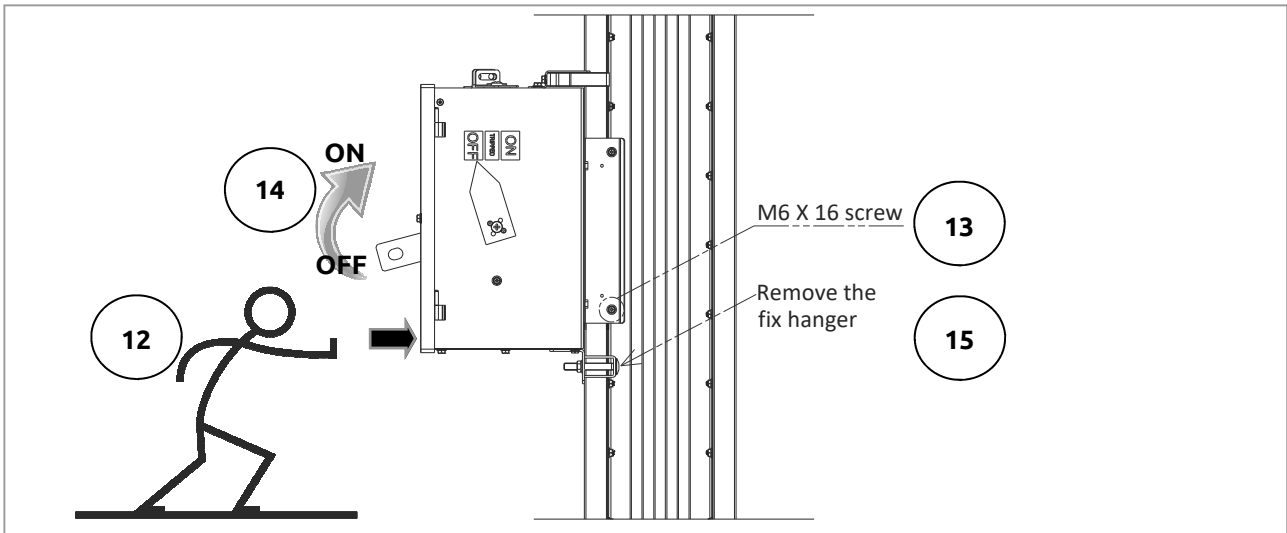

Figure 21.1
12. Push the bottom part of the plug in unit (Figure 21.1)
13. Insert and tighten the M6 x16 screw on the lower part for both side (Figure 21.1)